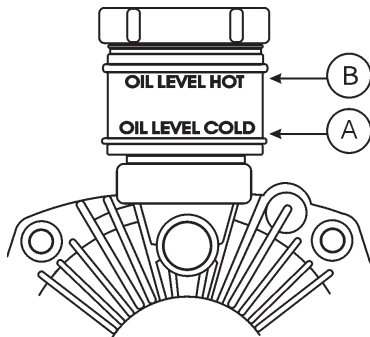

Figure 26. Transmission Reservoir
1. **Transmission Reservoir Cup:** Check every 8 hours of operation. When the transmission is **cold** (A), check oil level against the level indicator (see Figure 26).